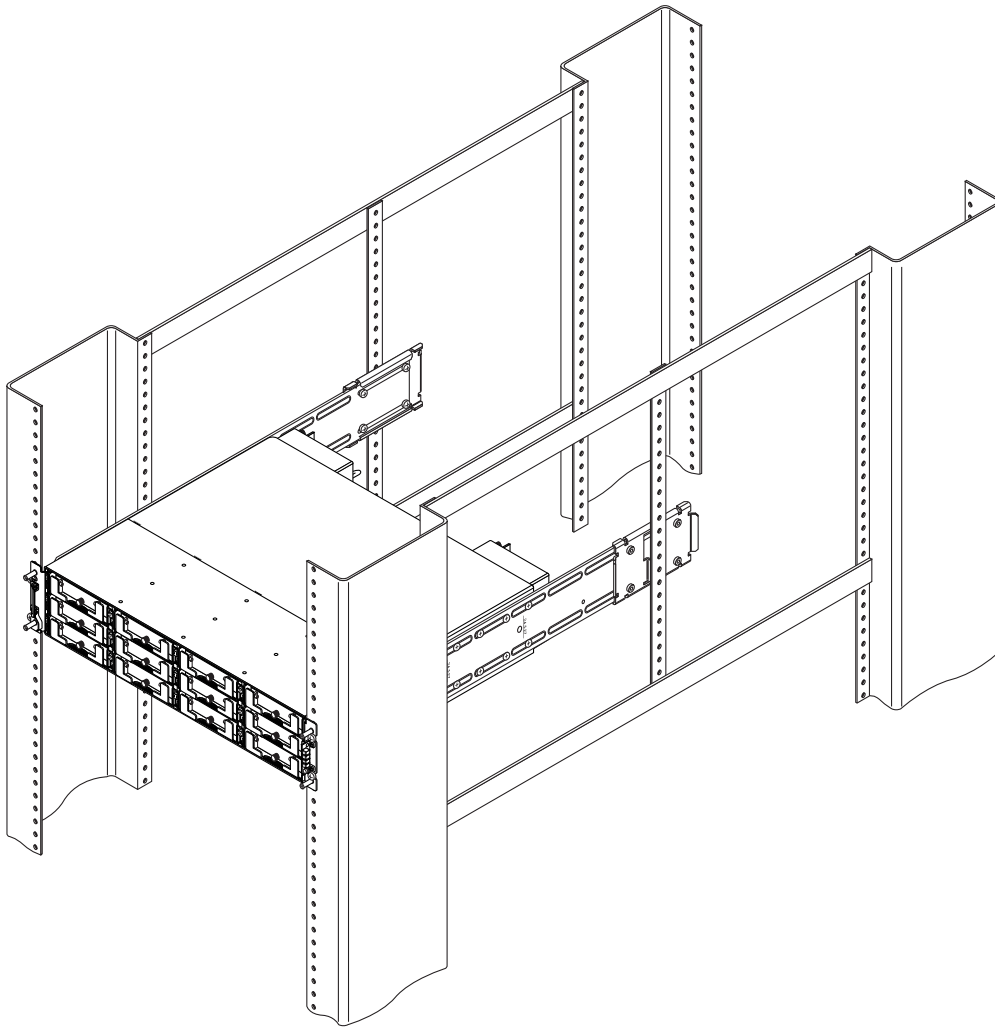

FIGURE 2-2 Rackmounted Cabinet Array Using Middle Brackets With Chassis Ears and Bezels Removed, After Installation
- You can mount a cabinet using middle and side brackets at 24.5 inches (62.22 cm). FIGURE 2-2 displays a completed installation of a Sun StorEdge 3000 Family 2U array in a Sun Fire Cabinet using middle and side brackets.
Refer to the parts list in TABLE 2-1 and the illustration in FIGURE 2-2 during installation. The table lists the major components and fasteners required to install an array into the cabinet.